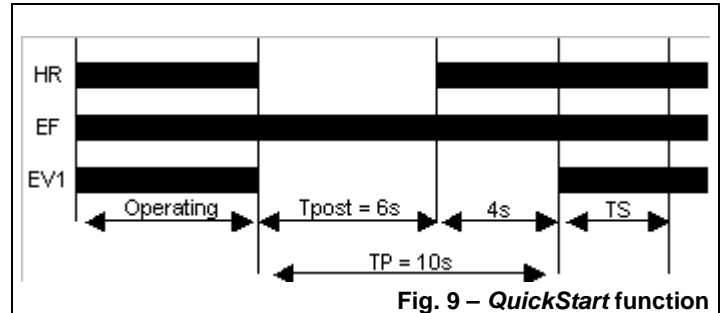

Fig. 9 – QuickStart function
To better understand this function, please refer to figure 9, representing an example with a control unit having a pre-purge time and a post-purge time of 10 seconds: if the heat demand (HR) is restored, for example, 6 seconds after the beginning of the post-purge, the device will carry out a pre-purge equal to $10 - 6 = 4$ seconds, i.e. the difference between the nominal pre-purge time and the performed post-purge time.